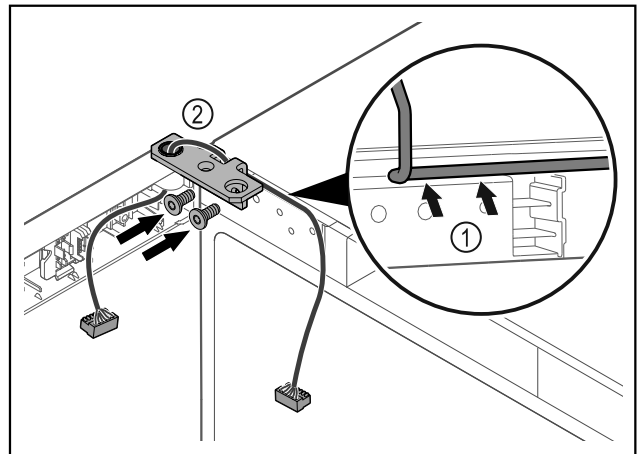

Fig. 44
- ▶ Feed the cable through the recess in the hinge and lay it carefully Fig. 44 (1).
- ▶ Screw on the hinge Fig. 44 (2).